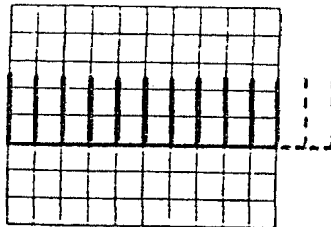

Figure 3-1
- Adjust VR5, TIME(T-4230, VR board) to obtain a 13 markers on the trace as shown in Figure 3-1.